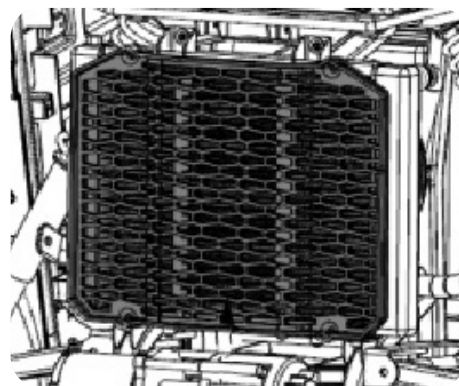

Figure 5-14
3. Detach the screen and clean the radiator and radiator screen and radiator fins of all debris. See Figure 5-14.